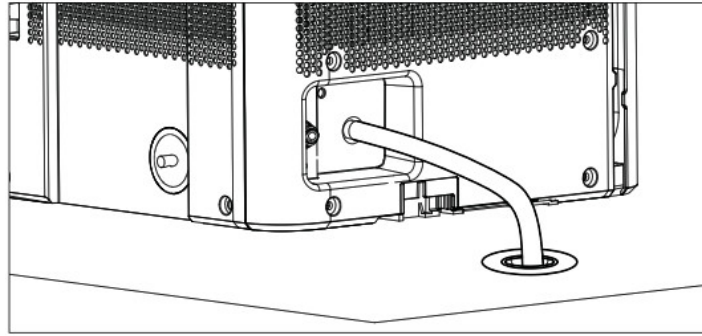
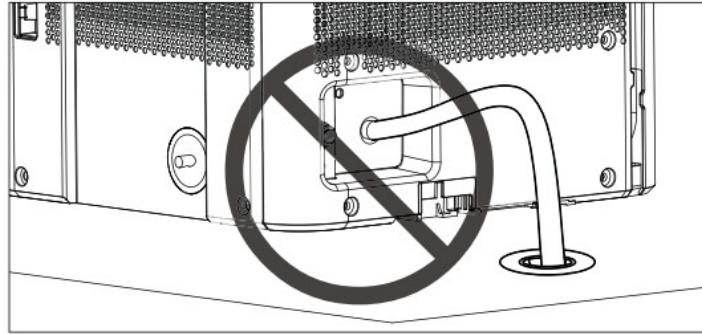

Fig. 6
Fig. 7
Bucketless mode allows you to run the unit without the bucket in place. The included drain hose or a garden hose must be attached and sloped towards the drain for proper bucketless mode operation. Figure 6 shows a proper slope while figure 7 shows an improper slope. The drain must be located below the dehumidifier. For best drain performance, we recommend the end of the drain hose be 4 inches below the hose connection.
3. Make sure the hose for Bucketless mode is sloped down to the drain (see fig. 6) and does not rise above the connection point (see fig. 7).